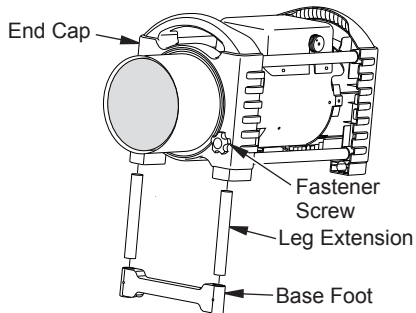

Figure 2 - Foot Assembly
1. Insert leg extensions into outlet end cap until small hole lines up with larger hole, visible from inside of outlet end cap (see Figure 2). Fasten leg extensions with provided Fastener screws.